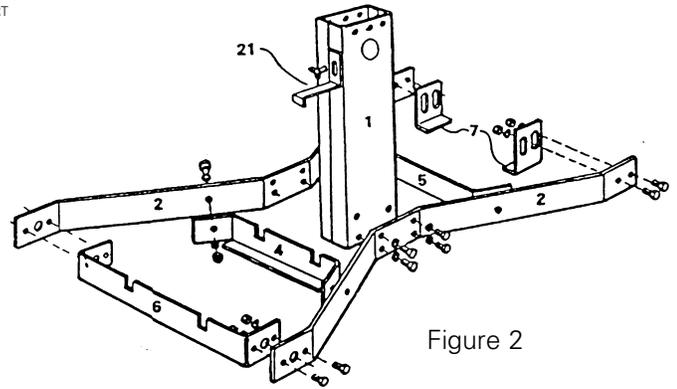

Figure 2
2. Refer to Figure 2. Select the following parts for assembly:
2b. Select left mid-brace (part 4). Place it as shown in Figure 2. Be sure notches are up and narrow flange is away from stand tube.
12. Attach the tank top brace (see Figure 2) to the stand tube with the wing bolt through the slotted hole in the brace. Slide brace down until outer end hooks over top ring of propane tank. Tighten securely.